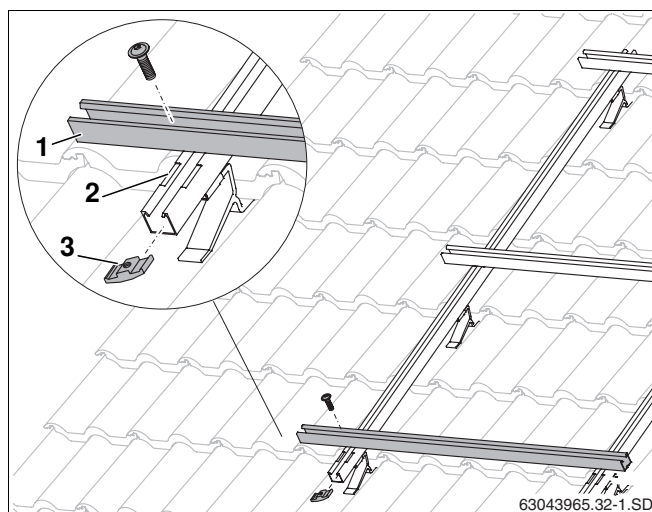

Fig. 30 Fitting landscape profile rails
- Place the profile rails (Fig. 30, **Item 1**) into the indentations (Fig. 30, **Item 2**) on the wind or snow load profiles and loosely fasten using bolt and sliding nut (Fig. 30, **Item 3**) so that the profile rails can still be aligned.